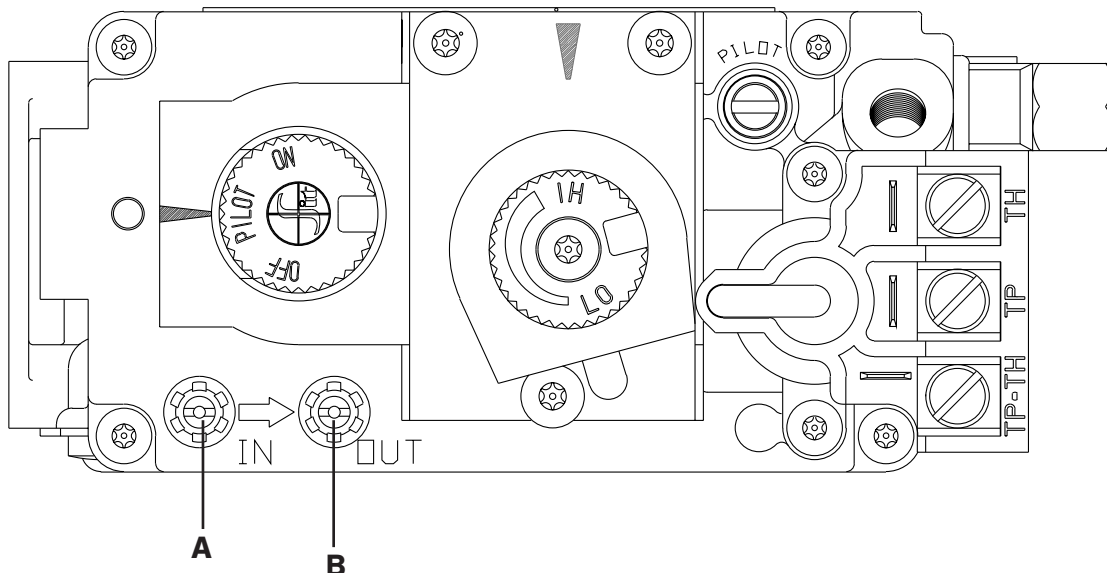

Figure 11.1, Pressure Check Taps Locations
1. Loosen the inlet (IN) pressure tap by turning screw counterclockwise. See (A) in Figure 11.1.
8. Disconnect hose and tighten the inlet (IN) pressure tap by turning screw clockwise. Screw should be snug. Do not over tighten.
9. Relight pilot and turn the gas control knob to ON. Reattach manometer to the inlet pressure tap (A) to verify the tap is completely sealed. Manometer should read no pressure.
2. Loosen manifold (OUT) pressure tap by turning screw counterclockwise. See (B) in Figure 11.1.
7. Attach the manometer to the manifold pressure tap (B) to verify it is completely sealed. The manometer should read no pressure when the rocker switch is pressed to ON.